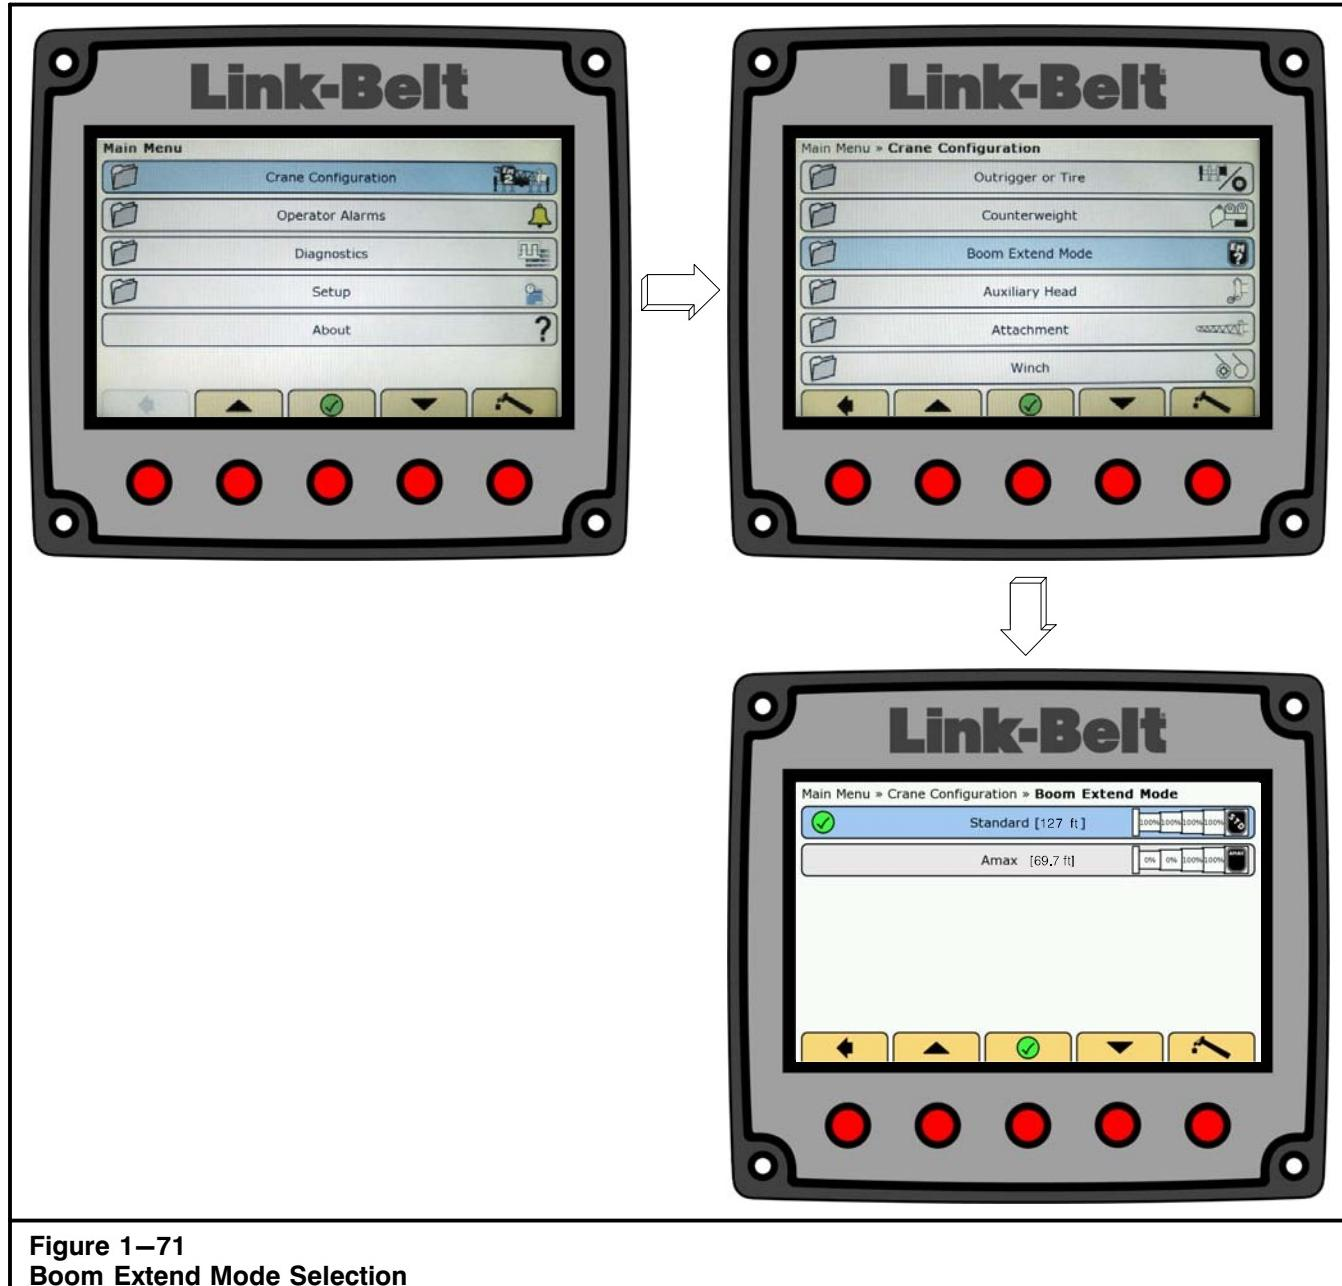

Figure 1–71
9. On the Crane Configuration menu, scroll to Boom Extend Mode, and press the OK/Enter button . Refer to Figure 1–71.